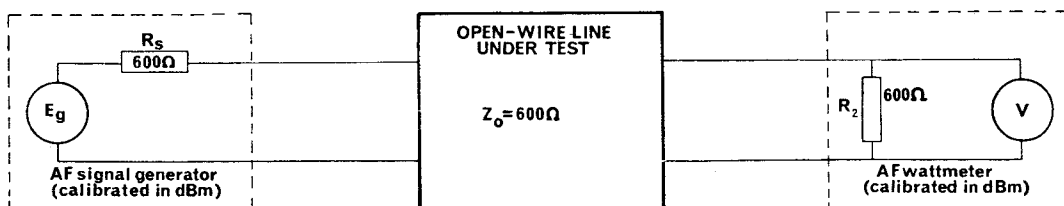

Fig. 3. Testing a transmission line
10. **Testing open-wire transmission lines.** The standard nominal impedance of open-wire transmission lines is 600 ohms and they will thus act as a matched load for the signal generator type 16728, provided that the line is also terminated with a load of 600 ohms. The performance of an open-wire line can be measured with the simple arrangement shown in figure 3 for determining the power lost along the line at a given operating frequency (usually 1kHz for voice circuits). One set of calibration marks on the output attenuator of the signal generator is calibrated in terms of the power delivered to a 600 ohm load, directly in dBm (dB with respect to 1mW reference level). The reading of the dBm scale on the meter and decade settings of the attenuator provide output powers from -60dBm to $+22\text{dBm}$. When using this scale, the meter reading should be kept in the -10dBm to $+2\text{dBm}$ region by suitable adjustment of the attenuator switch to avoid using the cramped part of the meter scale. The method of carrying out tests on a particular equipment is laid down in the equipment servicing schedules. A typical method is to adjust the signal generator output level (line input) until the line output is 1mW (0dBm), and read the line input from the signal generator to find the line loss.